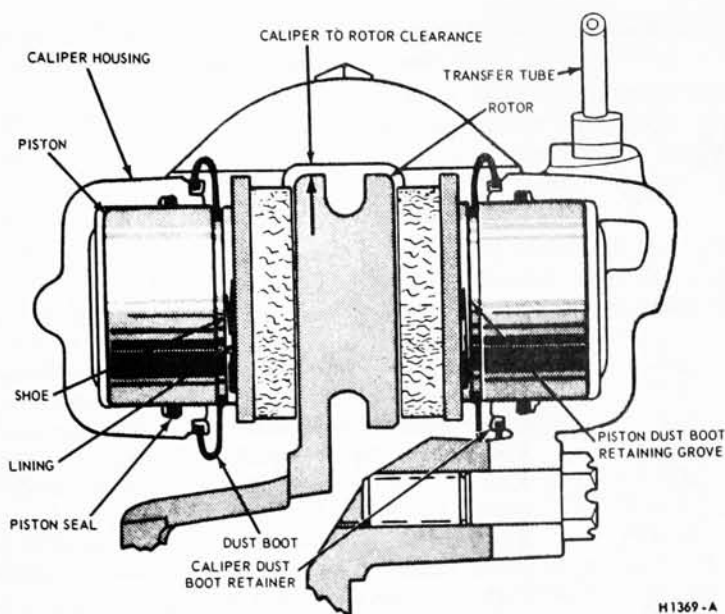

FIG. 2 — Caliper Assembly—Sectional View
lateral movement of either the disc (rotor) or the caliper. The caliper assembly consists of two caliper housings bolted together with each half containing two cylinder bores of 1 15/16 inch diameter. Each cylinder bore contains a piston with an attached molded rubber dust boot to seal the cylinder bore from contamination (Fig. 2). Square-section rubber piston seals are positioned in grooves in the cylinder bores.
3. To facilitate removal and installation of the shoe and lining assemblies, the pistons must be pushed into their bores. Apply a steady inward pressure against each shoe and lining assembly toward its respective caliper housing on each side of the rotor (Fig. 2). Maintain the pressure for at least a minute. If the pistons will not go in easily, force them in with water pump pliers.